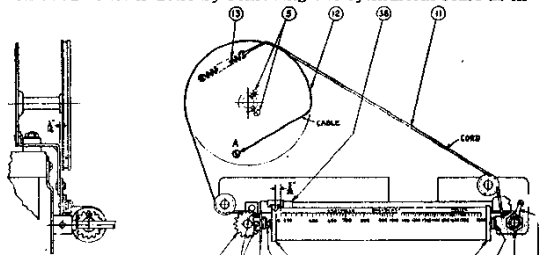

Fig. 7 Dial Mechanism
With set screws (5) loosened and tuning condenser plates fully engaged, place the drum in the position shown in Fig. 7. The drum should be located on the tuning condenser shaft so
as to be in line with the drive cord pulleys ($\frac{1}{4}$ in. from the dial mechanism mounting bracket), and so that, with condenser plates fully engaged, guide (38) occupies the position shown in Fig. 7.
The position of the dial scale pointer with respect to the tuning condenser drum is held fixed by a special metal braid cable (12) connecting the drum with guide (38). Tension is maintained on the cable through the drum spring (18) and drive cord (11). To replace either the drive cable or the drive cord, remove the dial scale for convenient access to guide (38). Unhook spring (13) from its drum tab to release tension. Unhook the cable or cord from guide (38) and unwind from the pulleys and drum. To replace the cable or cord, rethread to agree with Fig. 7, and rehook drum spring (13) as shown.